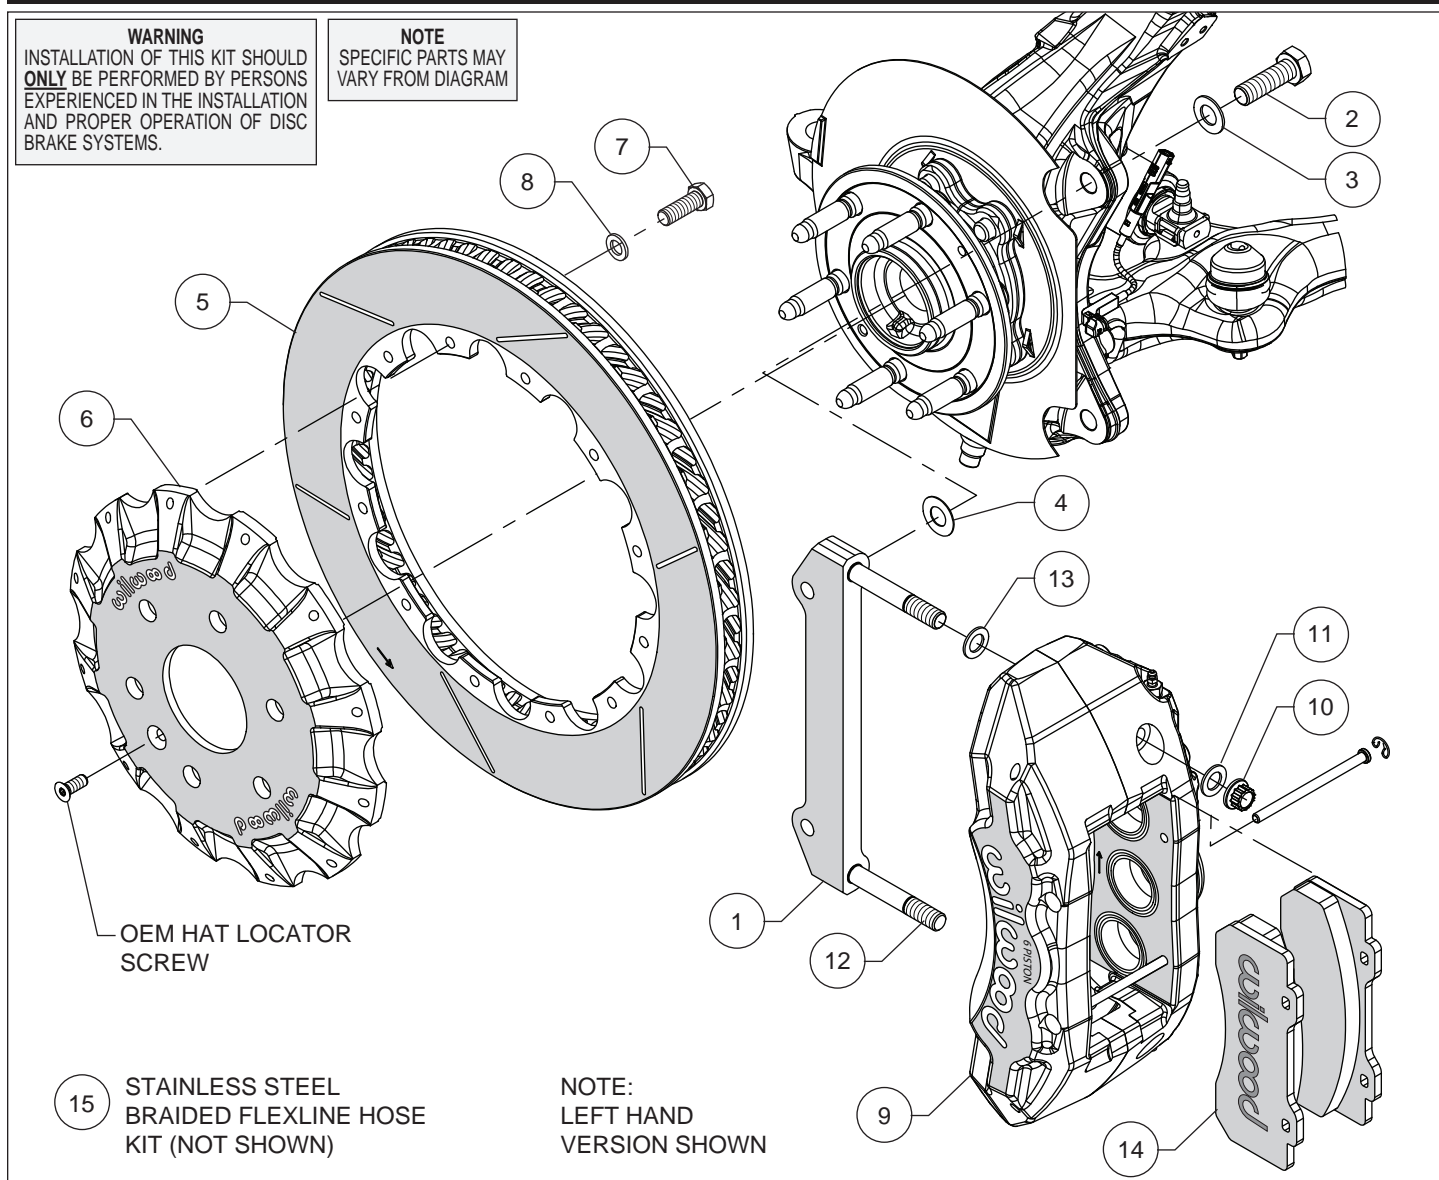
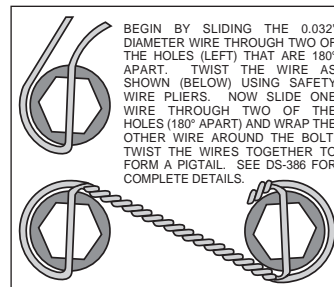

Figure 1. Typical Installation Configuration
Figure 3. Safety Wire Diagram
Assembly Instructions (numbers in parenthesis refer to the parts list and Figure 1 on the preceding pages):
- The caliper mount bracket (1) should initially be installed with clean, dry threads on the mounting bolts. Orient the bracket as shown in Figure 1, and install using bolts (2) and washers (3). Initially place one .029 thick shim (4) on each bolt between the bracket and upright, Figure 1. Temporarily tighten the mounting bolts. **NOTE:** The bracket must fit squarely against the mount bosses on the upright. Inspect for interference from casting irregularities, machining ridges, burrs, etc. **NOTE:** Some aftermarket uprights may require modifications to the mounting lugs to fit the new caliper bracket. Later, after the caliper alignment has been checked, the mount bolts will be secured using red Loctite® 271.
- Orient the rotor (5) and the hat (6) as shown in Figure 1 and Photo 2. Attach rotor to hat using bolts (7) and washers (8). Using an alternating sequence, torque to 25 ft-lbs. For an added measure of security, the bolts may be safety wired using standard 0.032 inch diameter stainless steel safety wire as shown in Figure 3. Please refer to Wilwood's data sheet DS-386 (available at www.wilwood.com/Pdf/DataSheets/ds386.pdf) for complete safety wire installation instructions.
- NOTE:** This kit contains distinct right and left hand calipers that must be mounted in a specific direction, as described below. Lubricate the caliper mounting studs (12) with lightweight oil. Initially place one .032" thick shim (13) on each stud as shown in Figure 1 and Photo 3. Mount the caliper (9) onto the bracket (1) using lock nuts (10) and washers (11), Figure 1. Ensure that the caliper is mounted so that the largest pistons are at the rotor exit end of the caliper, in relation to the direction of rotor rotation. Temporarily tighten the lock nuts and view the rotor through the top opening of the caliper. The rotor should be centered in the caliper, Photo 4. If not, adjust by adding or subtracting shims (4) between the bracket and the upright. Always use the same amount of shims on each of the two mounting bolts. Once the caliper alignment is correct, remove the bracket mounting bolts (2) one at a time, apply red Loctite® 271 to the threads, and torque to 77 ft-lb.